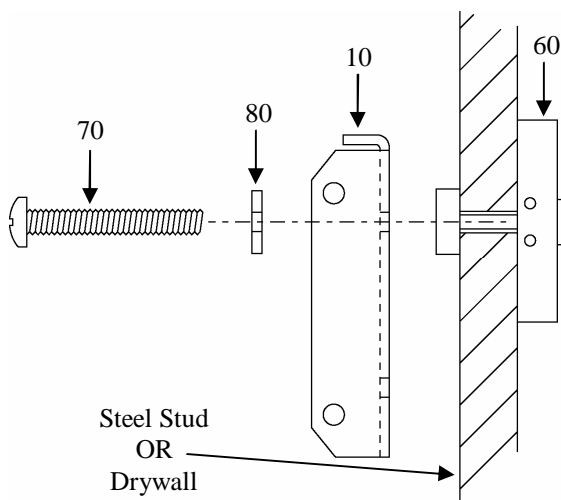

Figure 9. Mount the Speaker Wall Bracket
7. Using the 1/4-20 Phillips head screws (70) and flat washers (80), secure the wall bracket (10) to the wall. See Figure 9.